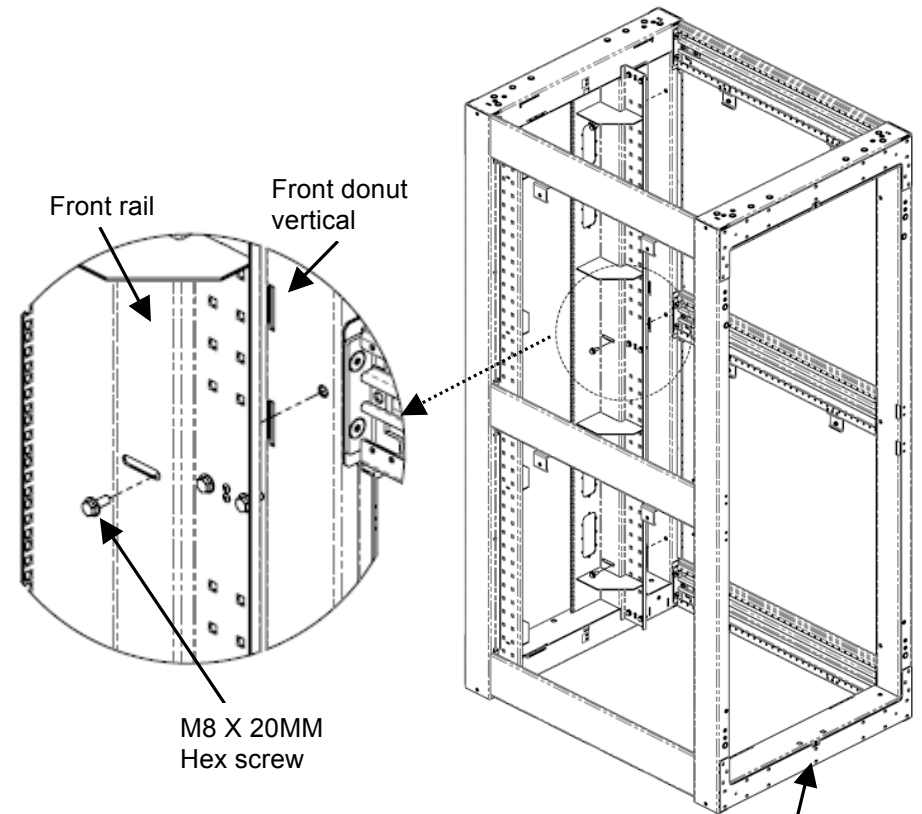

Fig. 2
2. For a GR-63-CORE seismically rated system, front rails must be attached to the front verticals using included M8 HH screws (Fig.2), tightened to approximately 168 in-lbs [19 N-m].